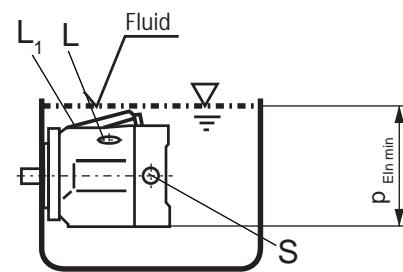

Fig. 3
- If the minimum fluid level is equal to or above the top of the pump, ports "L", "L₁" and "S" should remain open (see Fig. 3)